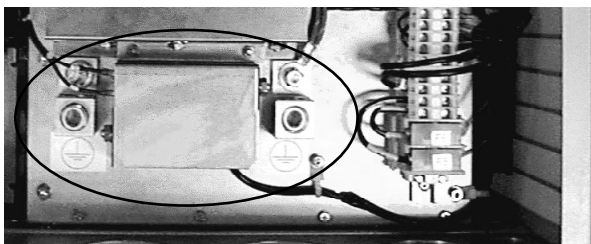

Figure 4.1.35: Location of Ground Terminals
2. Remove user ground wiring from the lug being replaced. See Figure 4.1.35.